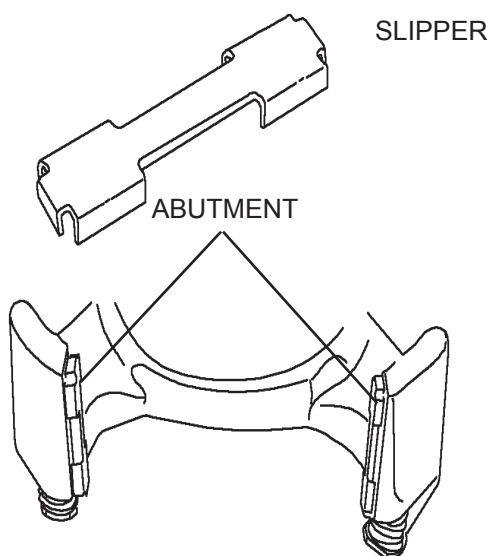

Figure 45. Anchor Plate Pad Abutment Slipper Installation
11. Verify anchor plate abutment slippers are installed on the anchor plate (*reference Figure 45*).